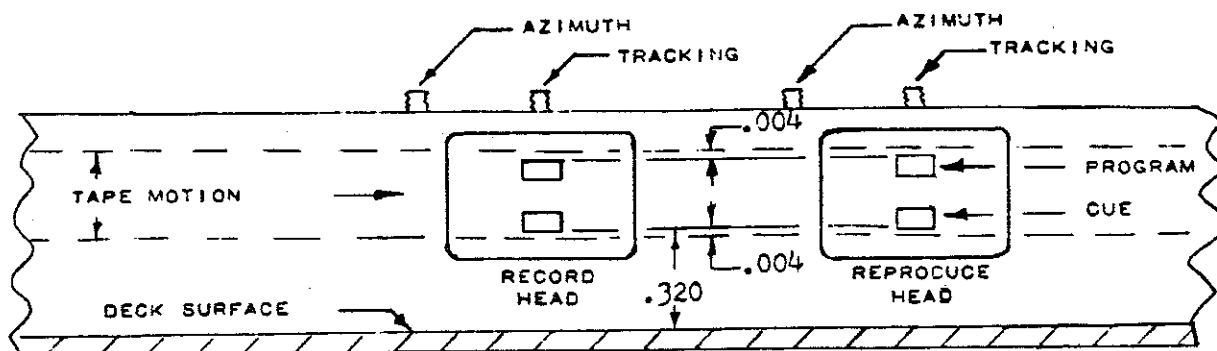

Figure 1
- (1) Refer to Fig. 1 for location of the tracking and azimuth adjusting screws.
- (2) A coarse adjustment of head tracking should be made by measurement. With the .050" hex key, rotate the tracking screw for a spacing of 5/16" between the deck
surface and the lower edge of the head pole pieces (see Fig. 1).
- (3) The fine adjustment makes use of the tracking cartridge described in item (3) under "Materials Required". Place the cartridge on the deck and set the tape in motion. Hold cartridge firmly against deck surface with finger pressure. Observe the tape travel path across the head. Adjust the tracking screw so that the top and bottom pole pieces are equidistant from the top and bottom edges of the tape. The ideal tracking adjustment is shown in Fig. 1.
- (1) After the reproduce head has been adjusted, proceed with alignment of the record head. See Fig. 1 for location of tracking and azimuth adjusting screws.
- (2) Follow tracking adjustment instructions (2) and (3) under REPRODUCE HEAD ADJUSTMENT PROCEDURE.
- (3) Remove tracking cartridge and place unrecorded cartridge on deck, turn RECORD/PLAY switch to RECORD, feed a 15 kc signal into the line input of the record amplifier, adjust recording gain to a meter reading of -10 VU, start the tape in motion and adjust the azimuth adjustment screw for maximum output from the playback amplifier.
- (4) Repeat procedure for final adjustment.
- (5) See note 1B, page 8 for record bias adjustment.